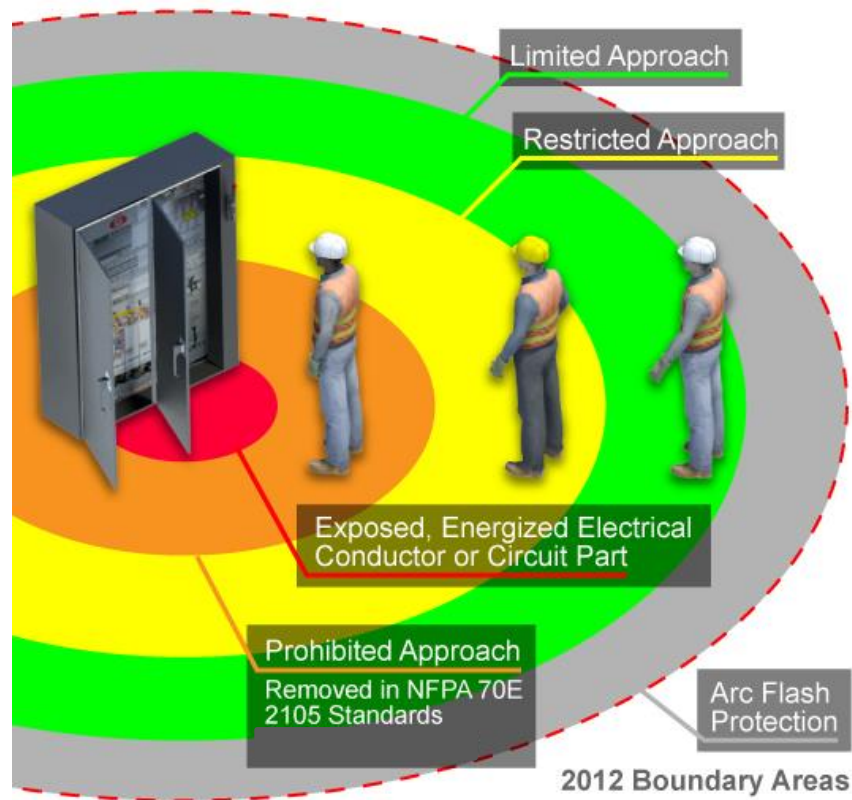

Figure 4.1 – Boundaries
1. **General** - For troubleshooting and testing purposes, only qualified persons using proper test equipment and personal protective equipment must adhere to the boundaries shown in figure 4.1 and specified in table 4.1. For adjusting, tightening, calibrating or any other work, the circuits must be de-energized, or employees must use voltage-rated gloves and voltage-rated insulated tools.